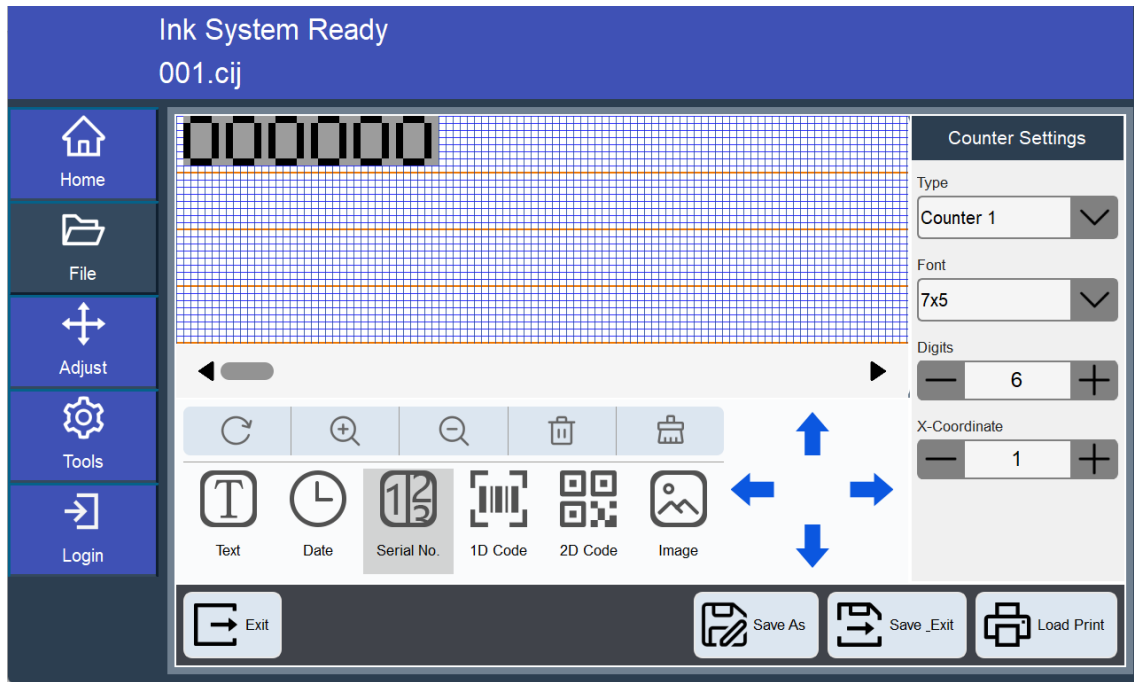

Figure 3-8 Serial Number Editing Interface
1. To print dynamic counter numbers—where the sequence automatically updates without requiring manual intervention—tap the [**Serial Number / Counter**] button in the element selection area. A default serial number entry will appear in the [**Message Editing Area**], as shown in Figure 3-8.